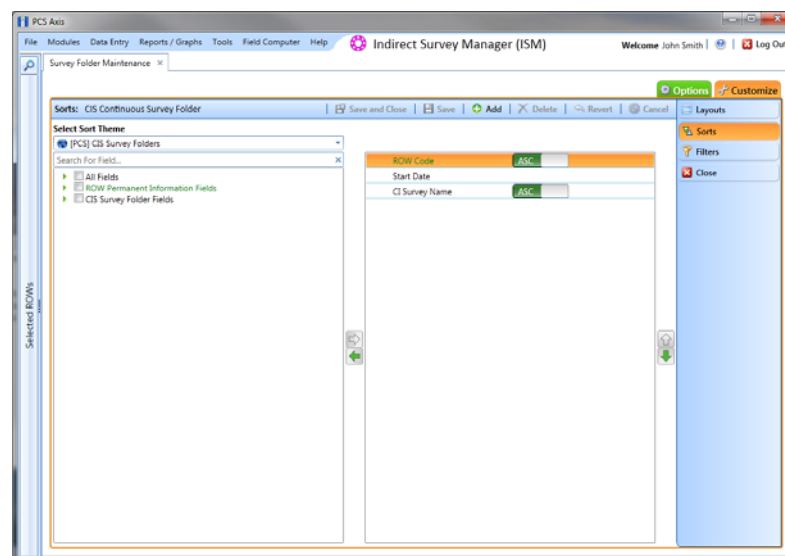

Figure 5-13. Sorts
- 5 Click the **Customize** tab  then the **Sorts** button  to open the *Sorts* page (Figure 5-13).